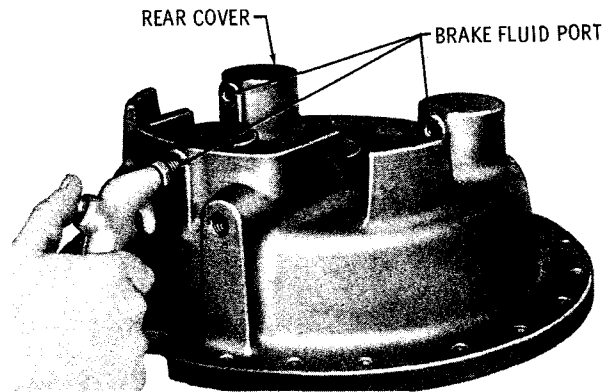

Fig. 6-26. Removing brake pistons from rear cover (TTB)
(9) Using forced air at each brake fluid port, remove the brake pistons and related parts from their bores (fig. 6-26). Each piston bore contains a piston 26 (foldout 15,B), sealing 25, piston cup 27, and expander assembly 28. Remove sealrings 25 from pistons 26.